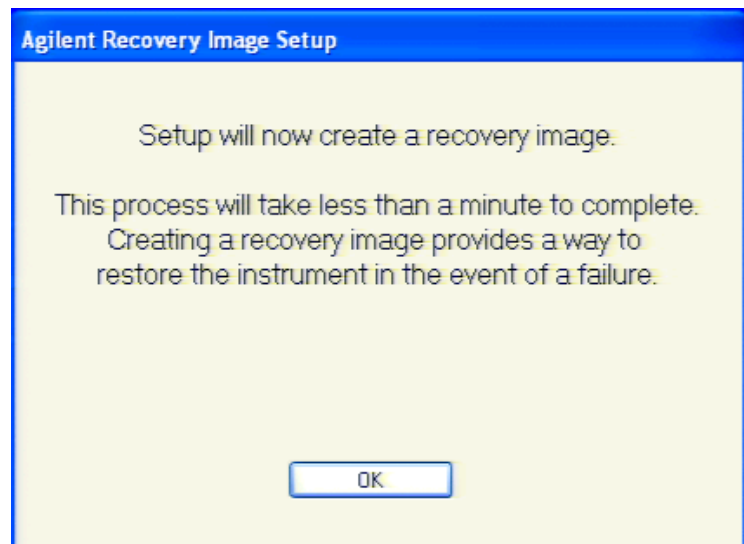

Figure 11 Agilent Recovery Image Setup
Step 7. After a while, the E5061B restarts automatically. The Agilent Recovery Image Setup dialog box as shown in the Figure 11 appears. Click the **OK** button.